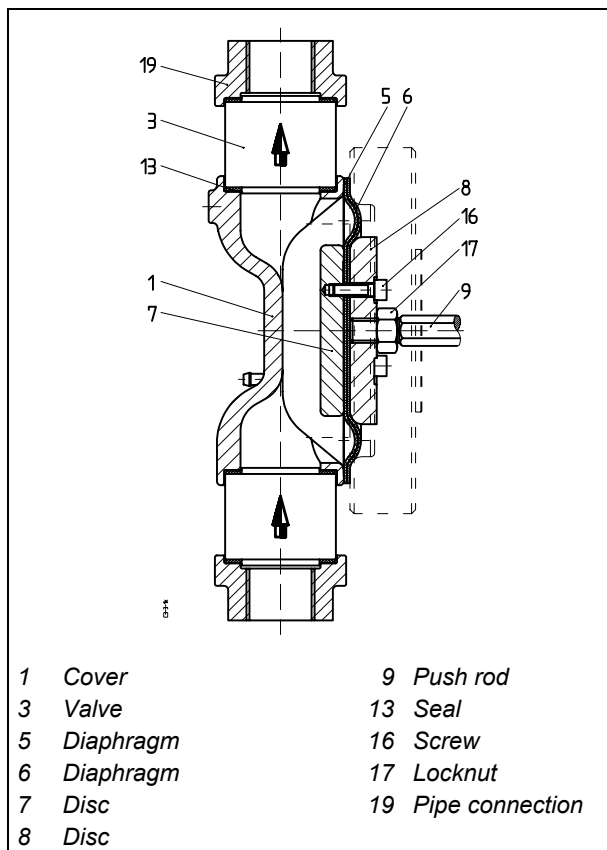
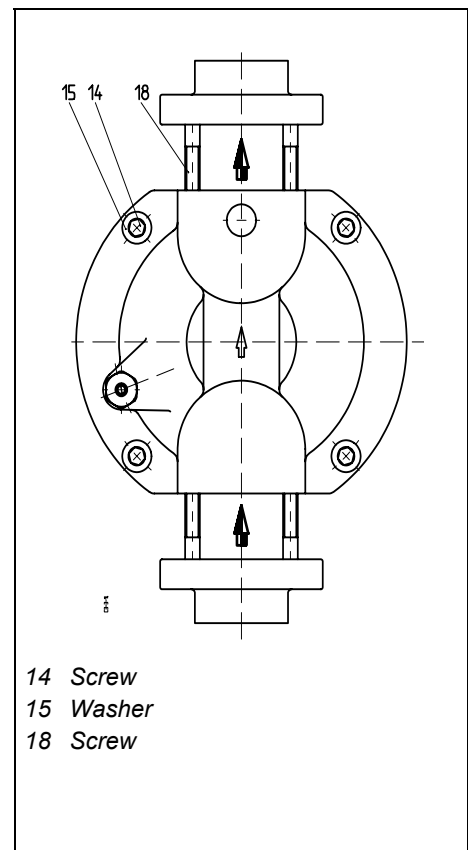
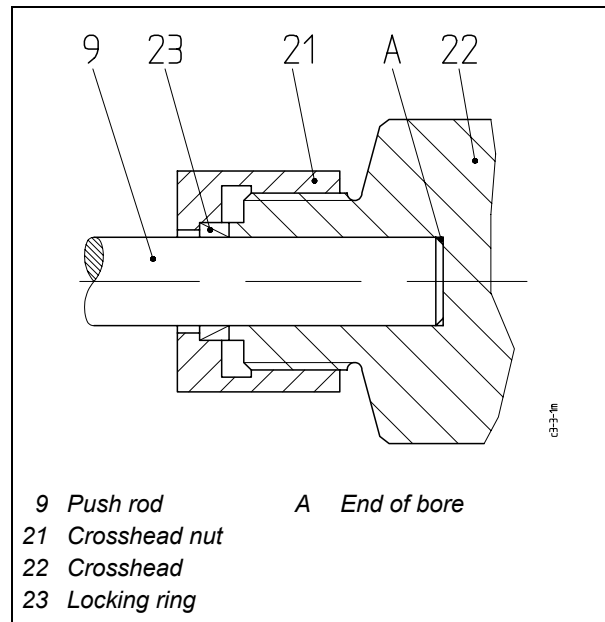

Fig. 3.10: Sectional View
Fig. 3.11: View
Fig. 3.12: Push rod
The replacement of the diaphragm in gear unit models G3, G4, D3 and D4 is shown in Fig. 3.10, Fig. 3.11 and Fig. 3.12.
- Undo the screws (14) uniformly in a crosswise manner and remove the cover (1).
- Undo crosshead nut (21) and remove the push rod (9) with the diaphragm assembly. (See Fig. 3.12).
- Remove the double diaphragm by unscrewing the locknut (17) and the screws (16).
- Clean the concentric grooves in the cover (1) and the disc (7) and remove all liquid residues.
- Assemble diaphragm assembly. Coat screw (16) with Loctite, insert and tighten to required torque (see assembly drawing, Section 9).
- Screw the locknut (17) finger-tight onto the push rod (9). Screw diaphragm assembly finger-tight onto the push rod (9) and secure by means of the locknut (17).
- Slide crosshead nut (21) and locking ring (23) onto the push rod (9). (See Fig. 3.12).
- Slide push rod (9) into the bore of the cross-head (22).